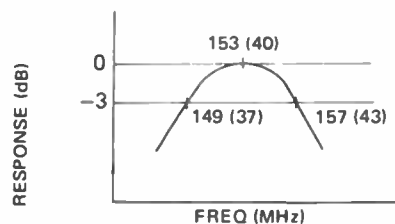

FIGURE 6. VHF RF CHARACTERISTIC CURVE
Step 2: Adjust L1, L2 and L3 of RF section (for Lo Band) for maximum output and best curve symmetry as shown in Figure 6. For Hi Band, adjust L7, L8 and L9.